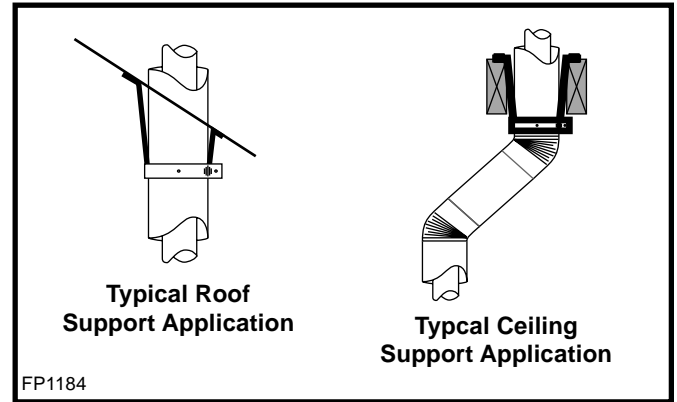
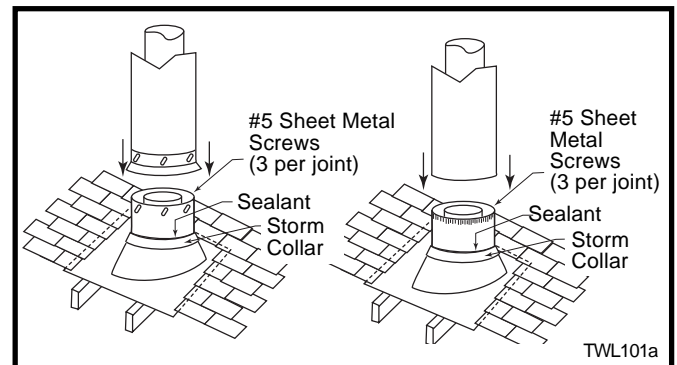

Fig. 32 Typical support applications.
Fig. 33 Roof flashing.
- e. 7DVCS must be used to support offsets. (Fig. 32)
7. Install roof support (Fig. 32) and roof flashing making sure upper flange is below the shingles. (Fig. 33)
8. Install appropriate pipe sections until the venting is above the flashing. (Fig. 33)
The enlarged ends of the vent section always face downward. (Fig. 33)